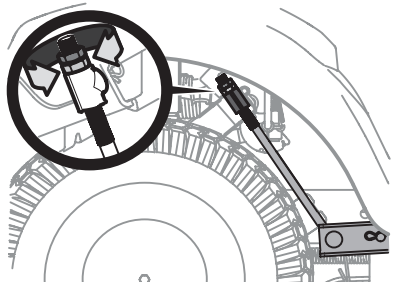

Figure 20
3. Under the rear fenders, inside the wheels, there is a lift adjustment rod for each side of the deck (Figure 20).